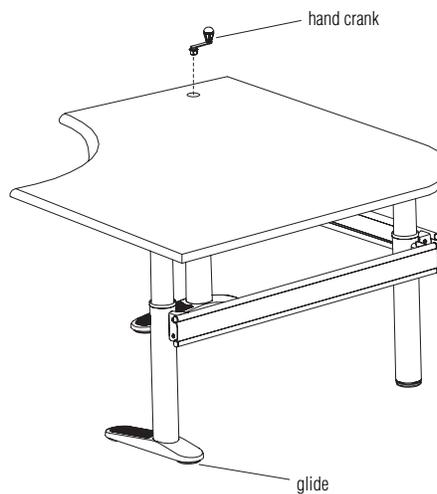

Figure 5
7. Place a hand crank onto the shaft in the top of the worksurface and adjust to the desired height. The five glides on the table base feet may be adjusted to accommodate varying floor surfaces. Lift the base off the floor and turn the glide clockwise or counter clockwise to adjust (Figure 5).